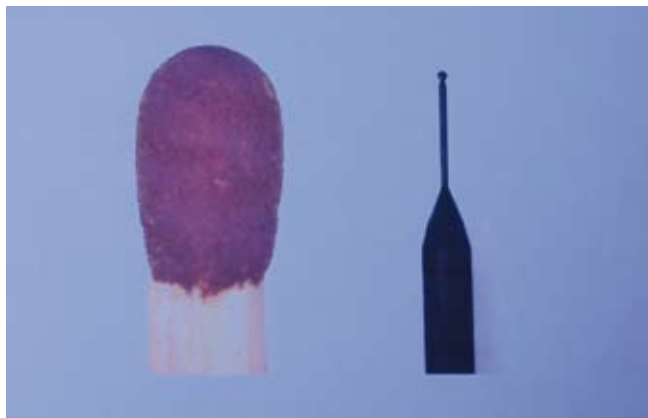

Figure 5. Smallest diamond-coated & polished probe in the world, with 0.2 mm diameter and a form accuracy better than G5.
7. Diameters as low as 0.2 mm are possible (see Figure 5).